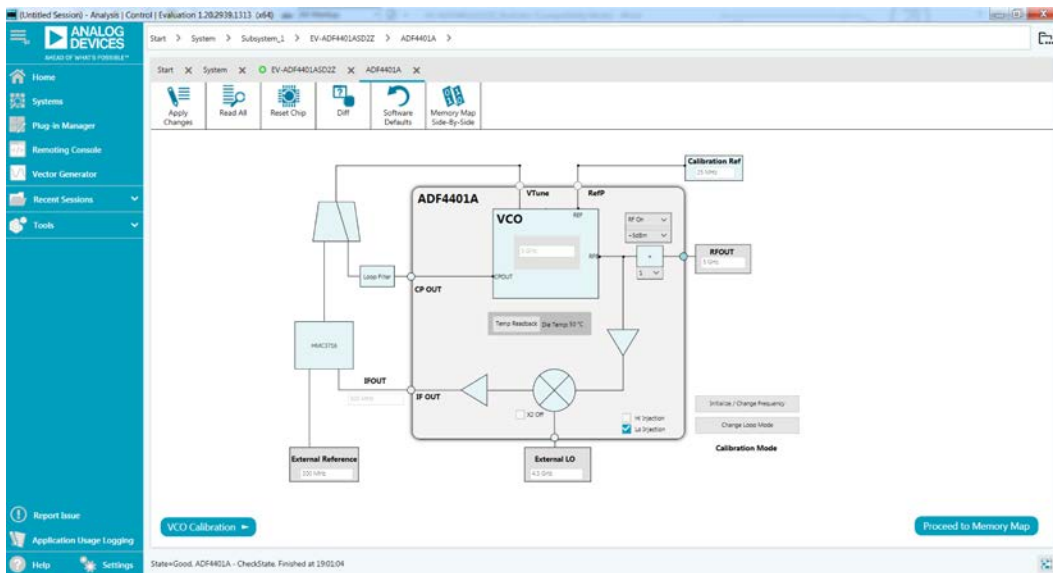
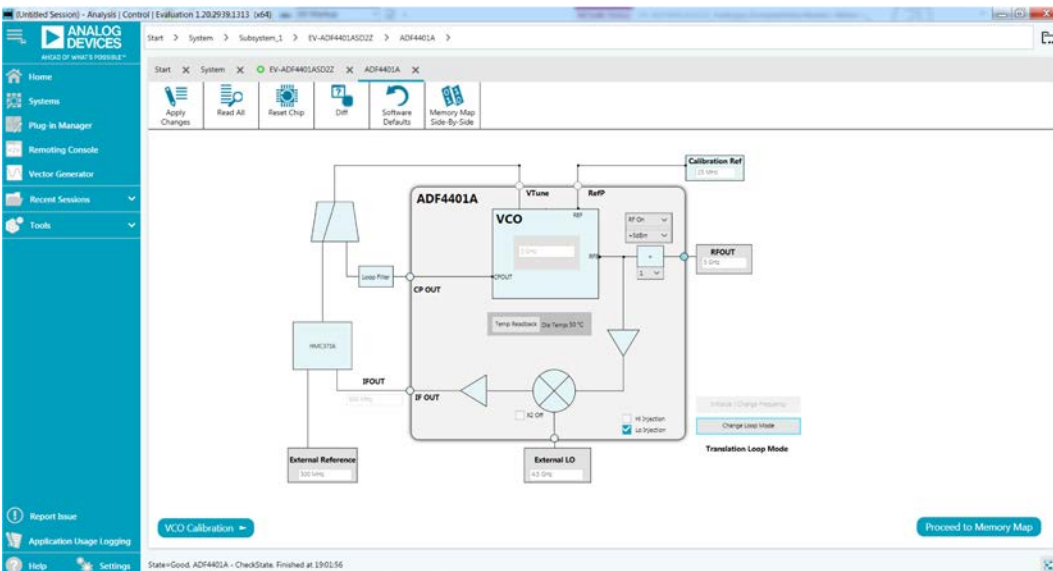

Figure 5. ADF4401A Tab, Main Control Window (Calibration Mode)
Figure 6. ADF4401A Tab, Main Control Window (Translation Loop Mode)
3. Double click the ADF4401A icon in the EV-ADF4401ASD2Z tab to open the main control window in the ADF4401A tab, as shown in Figure 5 and Figure 6.
The main controls in **ACE** are available in the high level register map shown in Figure 5 and Figure 6. To modify the registers, perform the following steps:
6. When the initialization completes, change the mode from **Calibration Mode** to **Translation Loop Mode** by clicking **Change Loop Mode**. Click this button to return to **Calibration Mode**. The current mode is indicated below the **Change Loop Mode** button, and the switch position is updated accordingly, as shown in Figure 6.
3. Run the ACE software. Set the **Calibration Ref** to 25 MHz, the **External Reference** to 500 MHz, and the **External LO** to 4.5 GHz (see Figure 5).